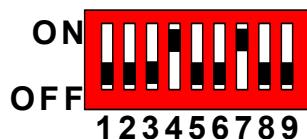

FIGURE 1. INITIAL DIP SWITCH SETTINGS
Step 1: *Switch on bit 4 and bit 7 of the Dip-switch. Leave all other bits off; see Figure 1.*